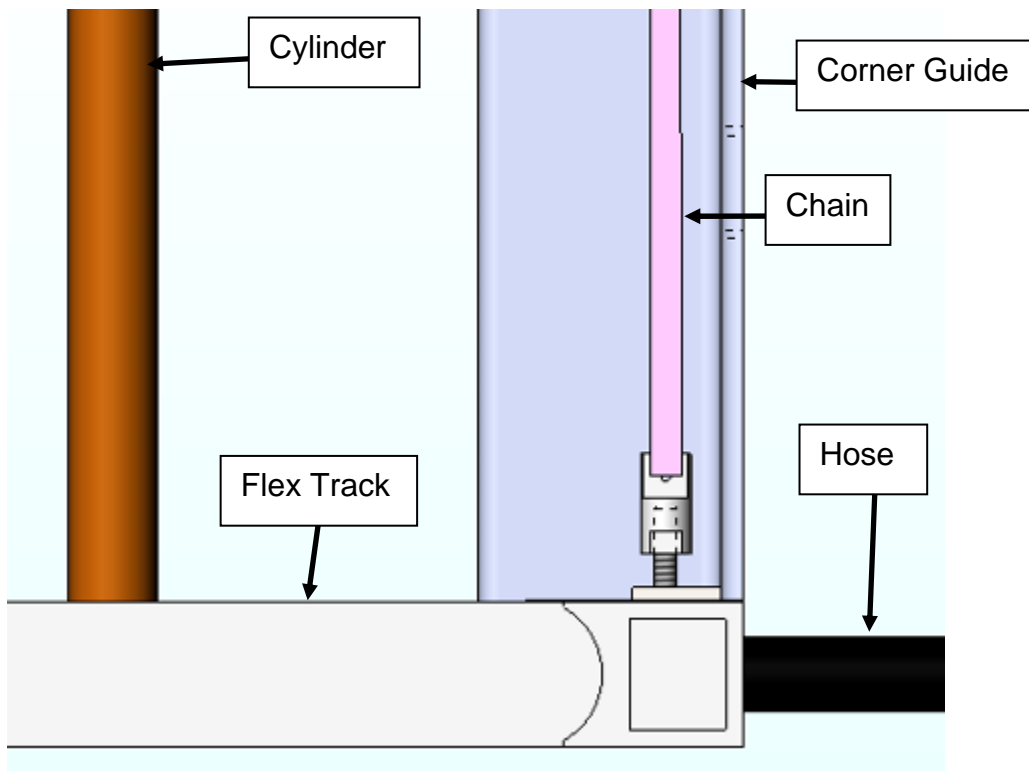
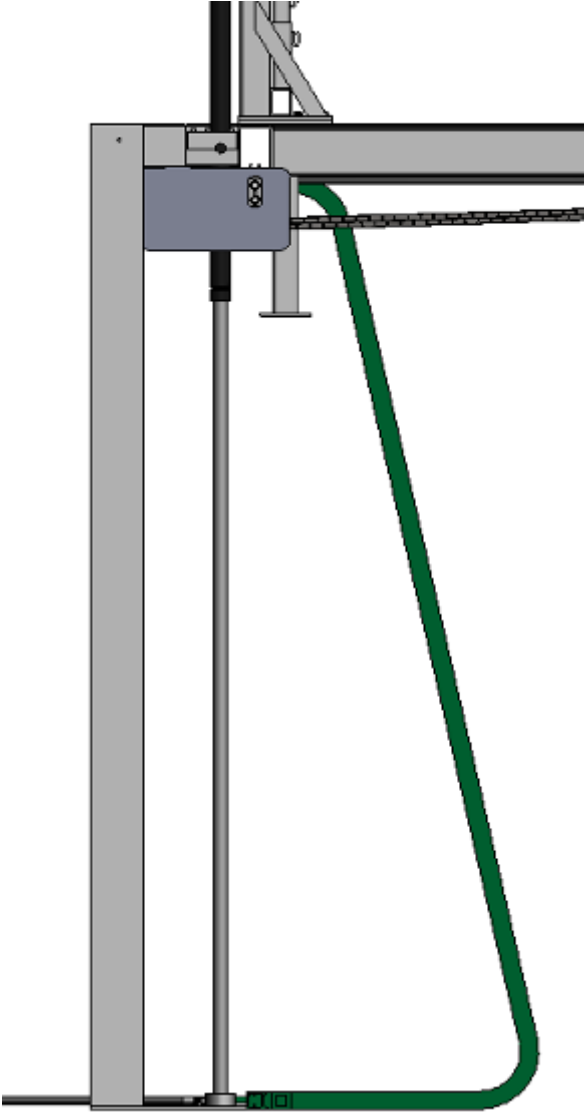

Figure 29A Flex Track Location – Floor (Side View)
Figure 29C Final Routing of Flex Track
6. Final-locate the Flex Track and bolt to the floor in the location & orientation shown in **Figures 29A & 29B** – with the inlet connection facing the hydraulic supply line. This location is critical as it provides the necessary clearance with all structural members beneath the carriage, and allows hosing to be connected without crushing or kinking during lift operation. Final routing of the Flex Track between the carriage and the floor should look like **Figures 29C**.